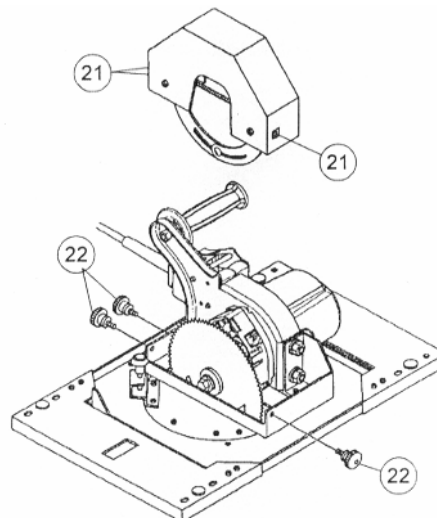
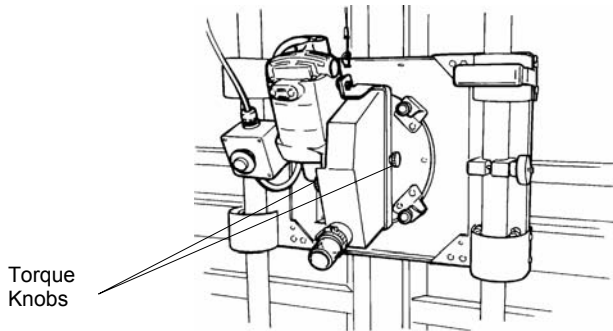

Figure 20: Installing the Blade Guard (Models C4, C5, H4, H5, H6)
Figure 21: Installing the Blade Guard (Models 6400, 6800)
The blade guard is attached to the carriage with the red torque knobs (22), Figure 20 or Figure 21. Remove the torque knobs to remove the guard. Be sure to leave the rubber washers on the torque knobs because they prevent the knobs from slipping.